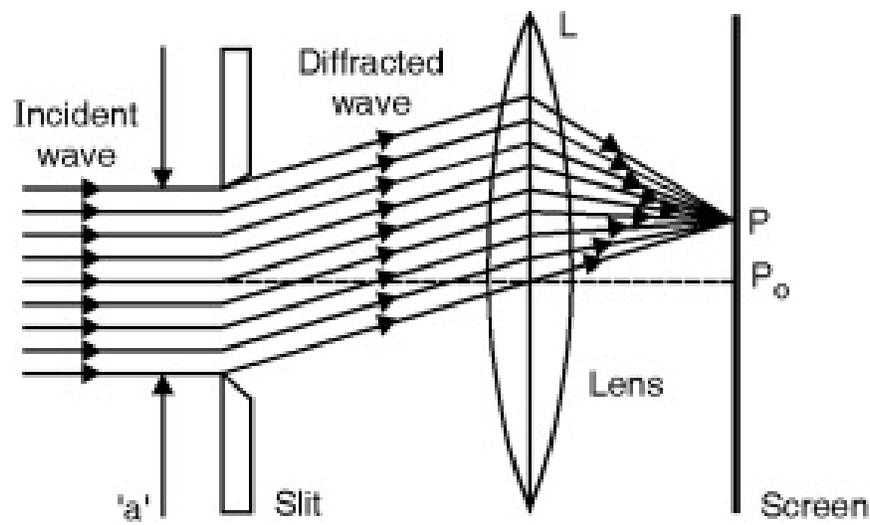

Fig. 3.4.1 : Fraunhofer Diffraction at Single Slit
- Consider a single slit of width 'a' illuminated by monochromatic light of wavelength λ as shown in Fig. 3.4.1.